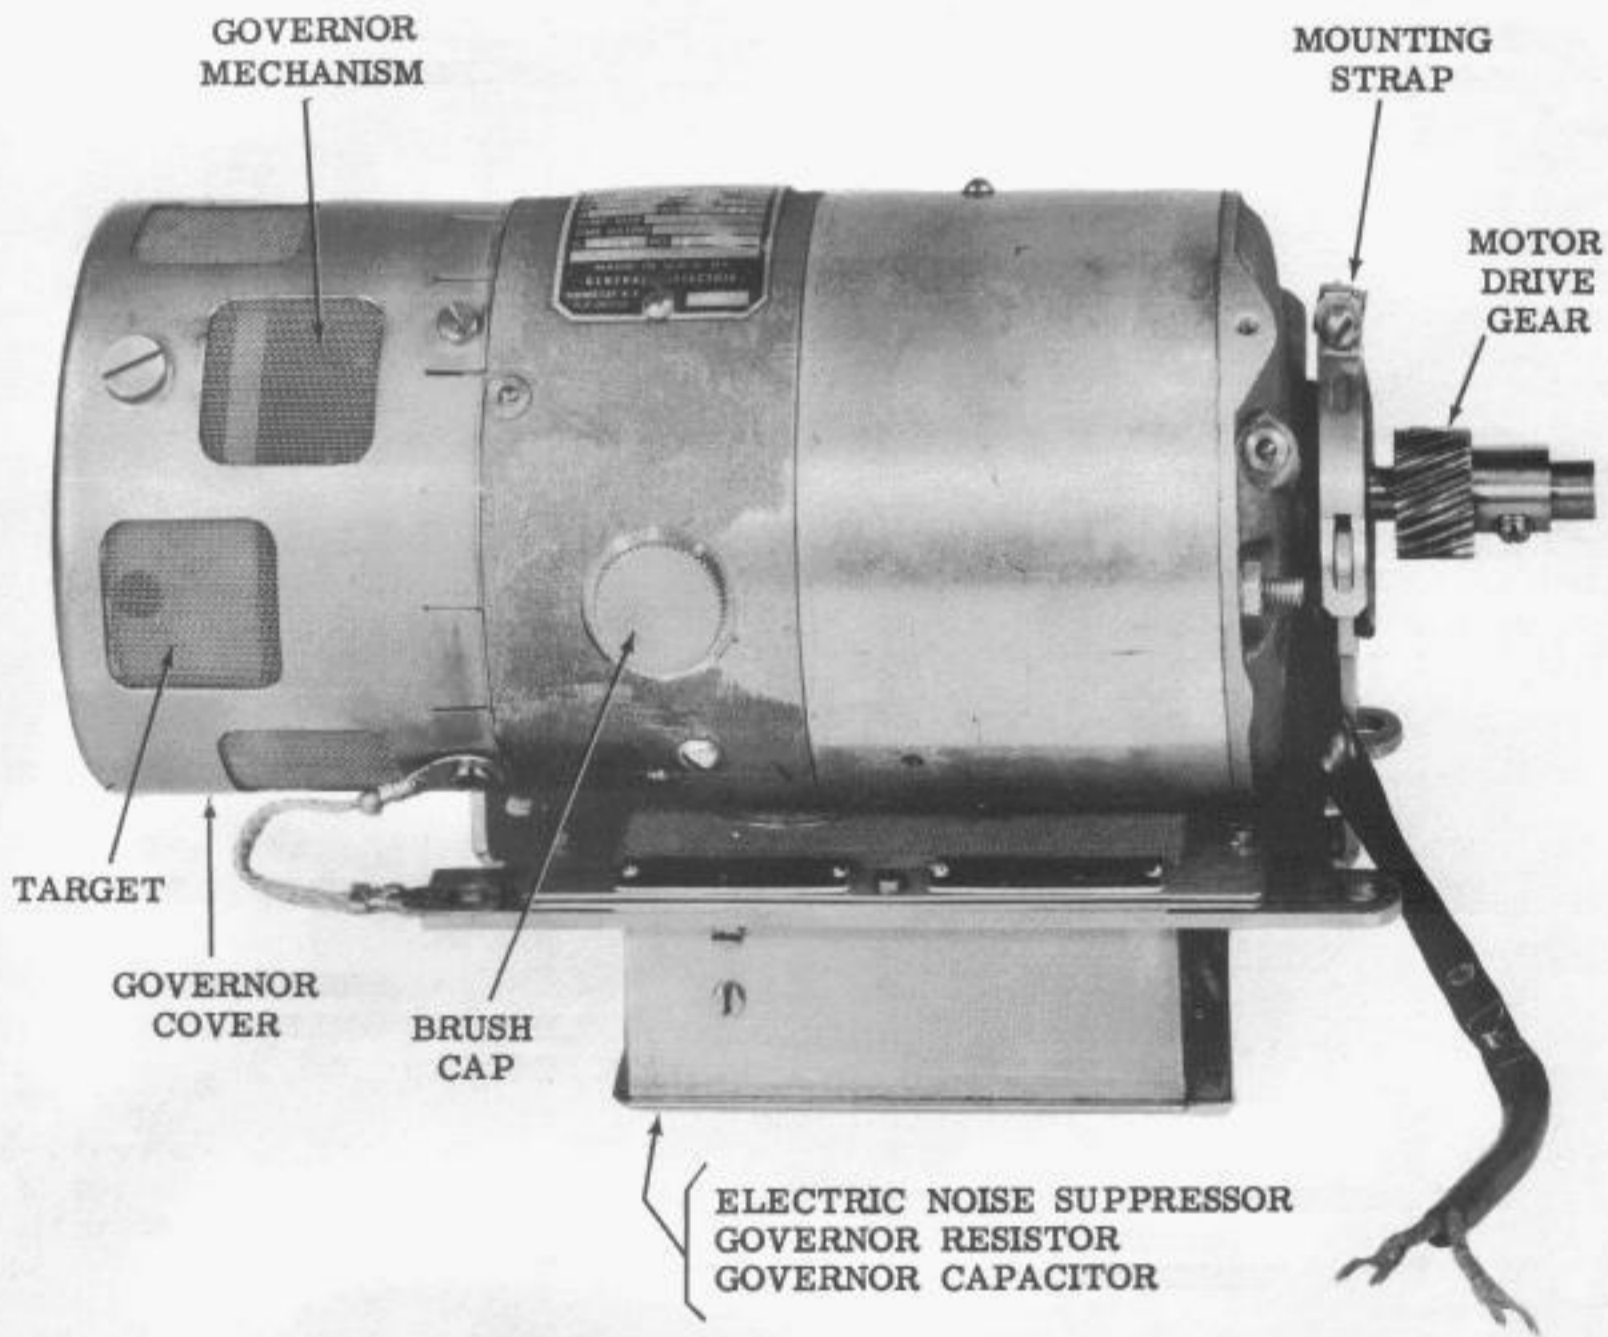

Figure 2 - 28 Series (Governed) Motor Unit
1.03 The series (governed) type motor units (Fig. 2) are available in 1/20 and 1/15 horsepower ratings. These motor units may be operated from regulated or unregulated,
#### SERIES (GOVERNED) MOTOR UNITS (Fig. 2)
**SERIES (GOVERNED) MOTOR UNITS (Figs. 2 and 4)**